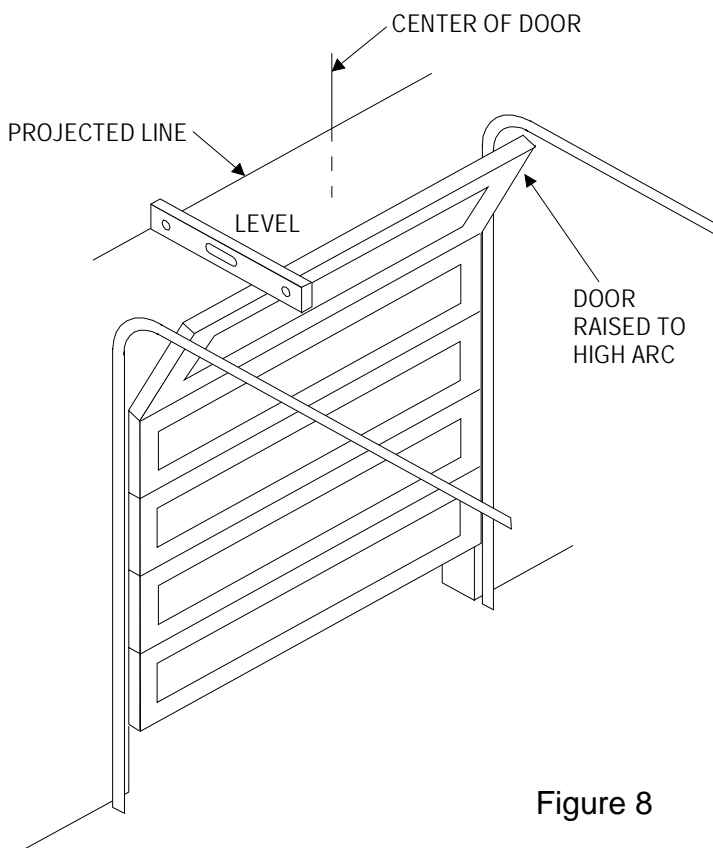

Figure 8
2. Slowly raise the garage door and observe the action of the top section. When the top section reaches the highest point (high arc), use a level and project a line from this point to the center of the door. See Figure 8.